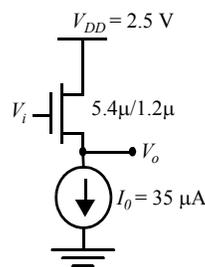

Figure 0.6 Source-follower level converter.
10. [M, None, 3.3.2] The circuit of Figure 0.6 is known as a *source-follower* configuration. It achieves a DC level shift between the input and output. The value of this shift is determined by the current  $I_0$ . Assume  $\gamma = 0.4$ ,  $2|\phi_f| = 0.6$  V,  $V_{T0} = 0.43$  V,  $k' = 115 \mu\text{A}/\text{V}^2$ , and  $\lambda = 0$ . The NMOS device has  $W/L = 5.4\mu/1.2\mu$  such that the short channel effects are not observed.